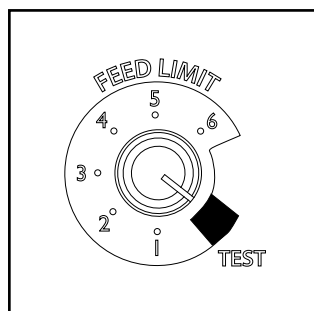

Figure 4.3
3. For your first fire it may be necessary to purge the auger system by putting the Feed Limit knob to "Test" prior to starting the unit. Figure 4.3. This insures that plenty of fuel enters the burn pot for proper ignition.